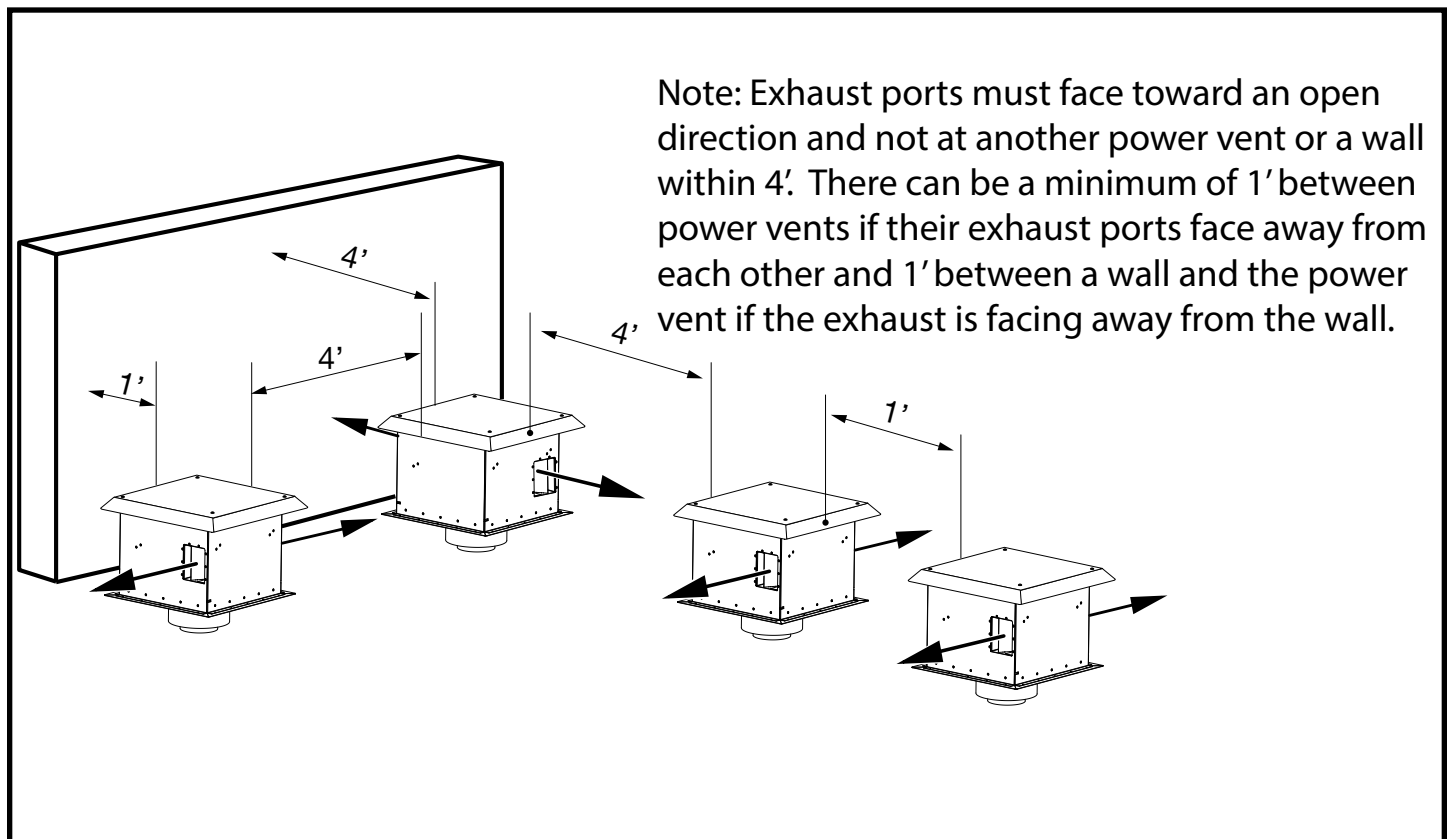

Figure 4: TCVT.PWVT Air exhaust clearances.
- Terminal casing: See Figure 4
Minimum clearances to the vent terminal must be maintained as shown in (Figure 4). Measure clearances to the nearest edge of termination hood.
3. Locate the power vent termination following the clearance to combustible table, (See “Minimum clearances to combustibles Table” on page 7), venting configuration diagram and terminal location diagram (Figure 4 on page 7).